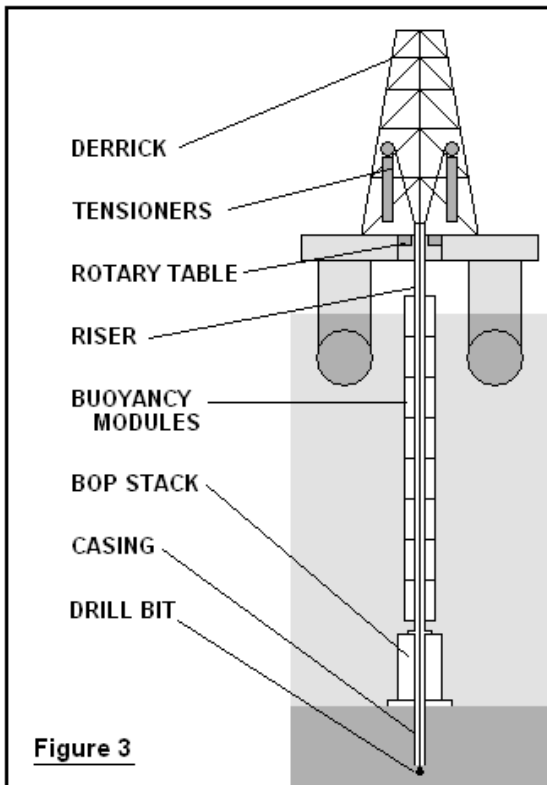

Figure 3
4.0 The metal pipe that connects the rig to the ocean floor is called the *riser*. A typical joint of riser pipe is from 50 to 90 feet long, with 75 feet being the most common length. Joints are bolted together to form the riser *string* that reaches from the surface to the bottom. Most risers are made of steel, although aluminum risers have been used and composite (fiberglass) risers are being contemplated. Whatever the material, riser pipe is heavy, and the floating rig needs help in supporting the riser when drilling in very deep water. That is why syntactic foam drilling riser buoyancy modules have become an essential part of modern deepwater operations. See the diagram in **Figure 3**.